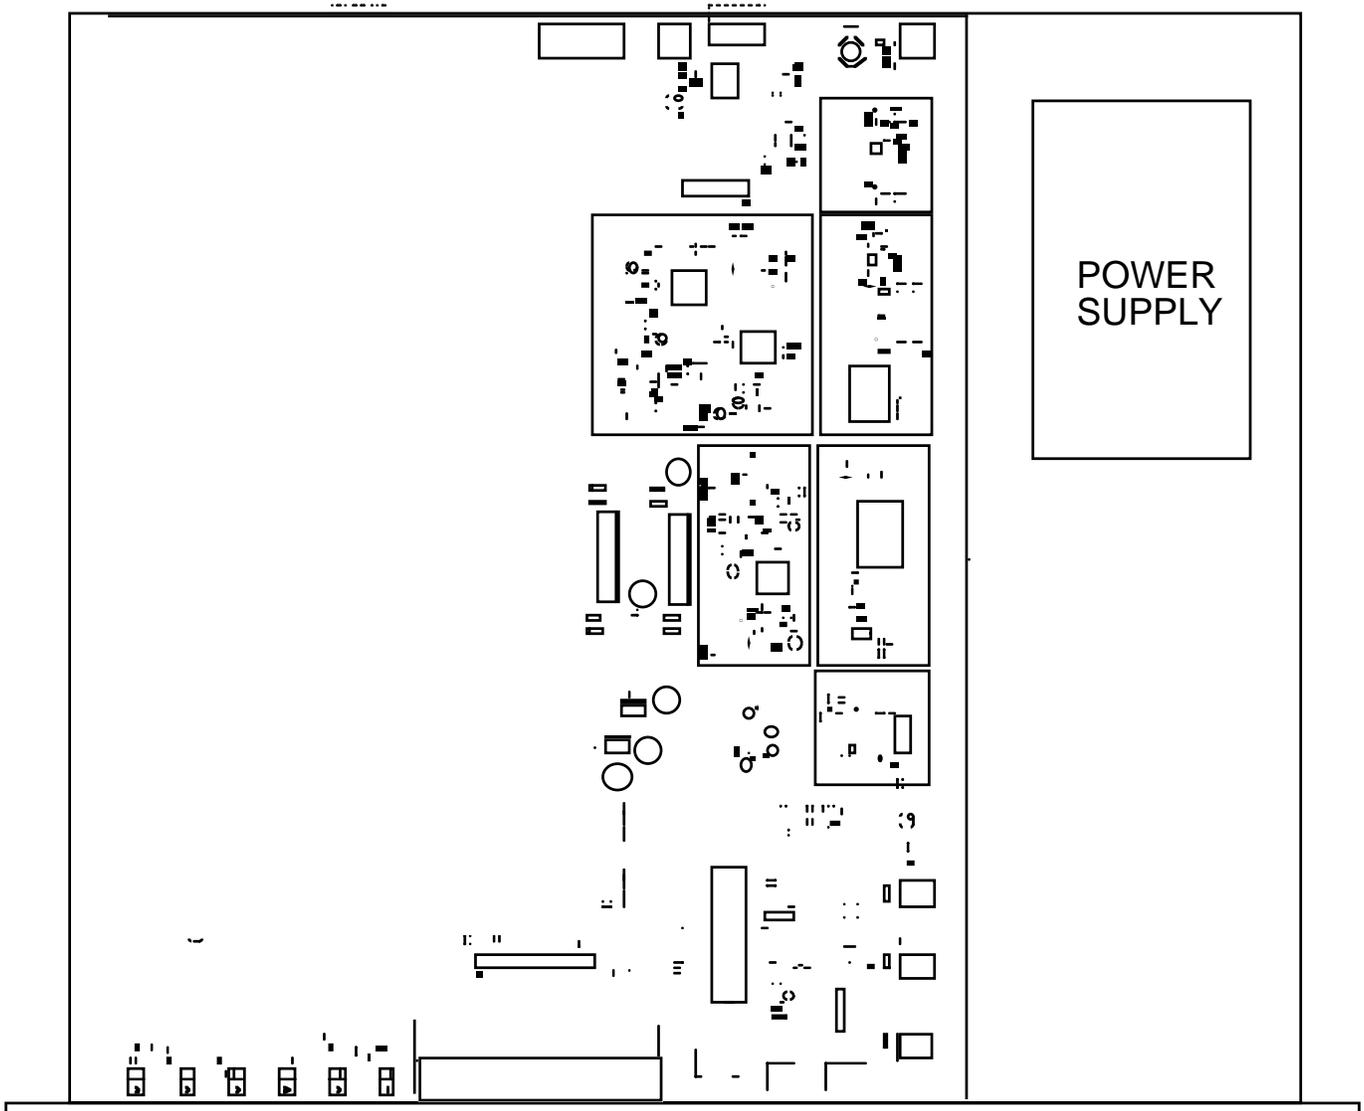

FIGURE 2.1 2016-1522# Mechanical Assembly
The 2016-1522# consists of one RF/Controller PCB housed in a 1 RU (1 3/4 inch high) by 16 inch deep chassis. A switching, ± 12 , +24, +5 VDC power supply provides power for the assemblies. The 2016-1522# can be secured to a rack using the 4 holes on the front panel. Figure 2.1 shows how the 2016-1522# is assembled.
7. Option -L only - To insert LNB +24 VDC on the RF center pin install 0.5A fast blo fuse in F1 and check that DS8 lights yellow (Figure 2.1).